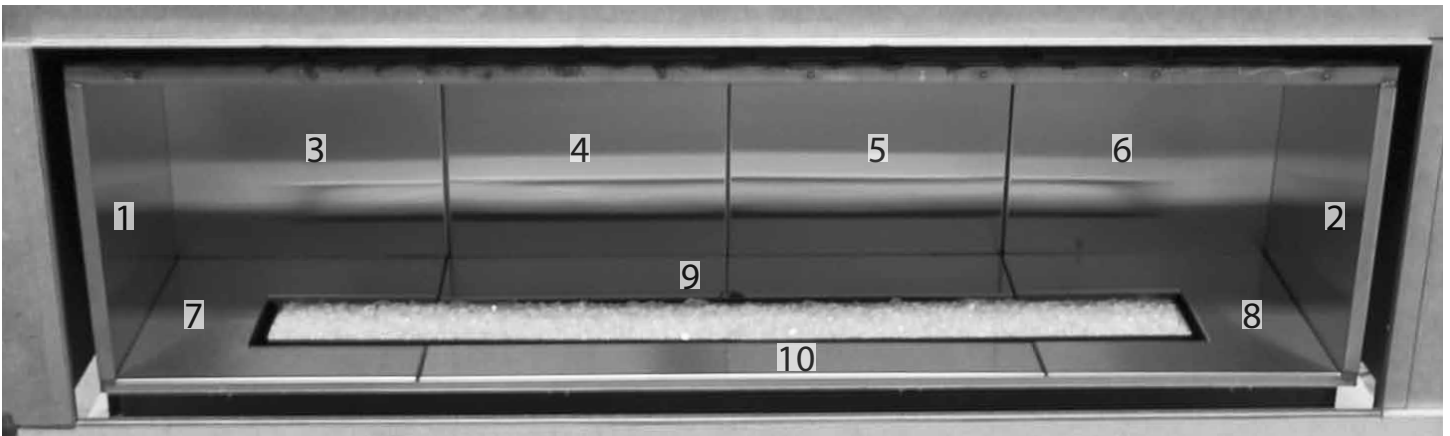

Figure 20 - Halcyon Panel Numbers
- b) Set the left and right side panels (1, 2) into place in the order shown in *Figure 20*. Fasten panels 1 and 2 with their top clips.
- c) Set the four rear panels (3, 4, 5, 6) into place as shown in *Figure 20*. Fasten panels 3 and 4 and panels 5 and 6 with the top clips. Ensure that there are no gaps between the panels and that they are centered.
- d) Set the four bottom panels (7, 8, 9, 10) into place in the order shown in *Figure 20*.
Figure 20 shows Stainless Steel panels; other panel types are also available.